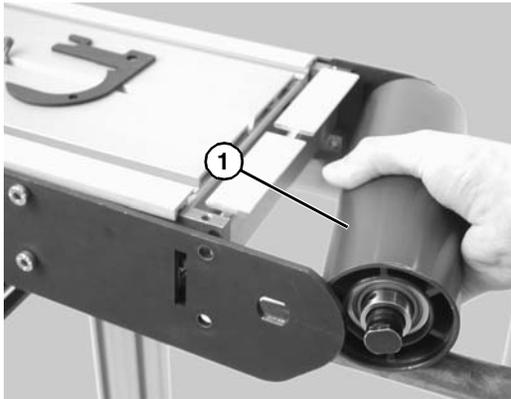

Figure 56
- Slide the idler pulley assembly (**Figure 56, item 1**) out of the headplate on the opposite side.